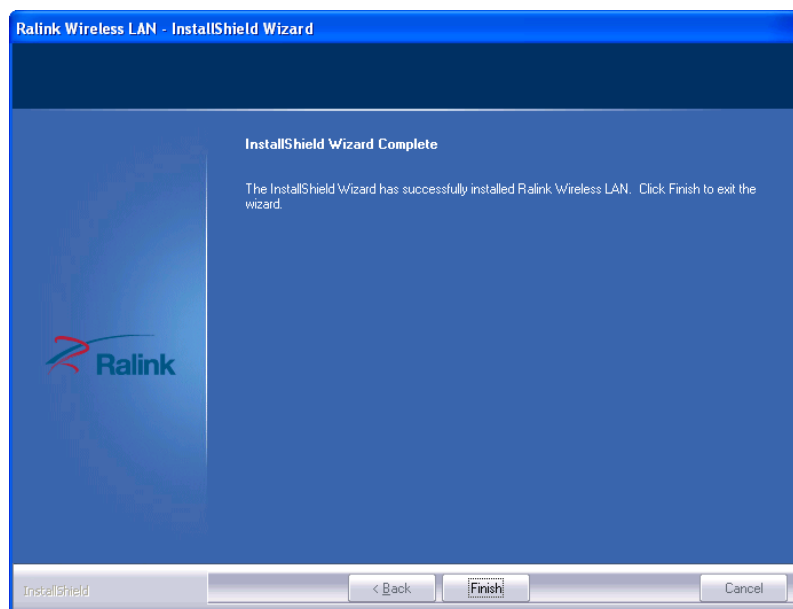

Figure 8-36: Installation Complete
Step 12: When the driver installation is complete, the screen in **Figure 8-36** appears.